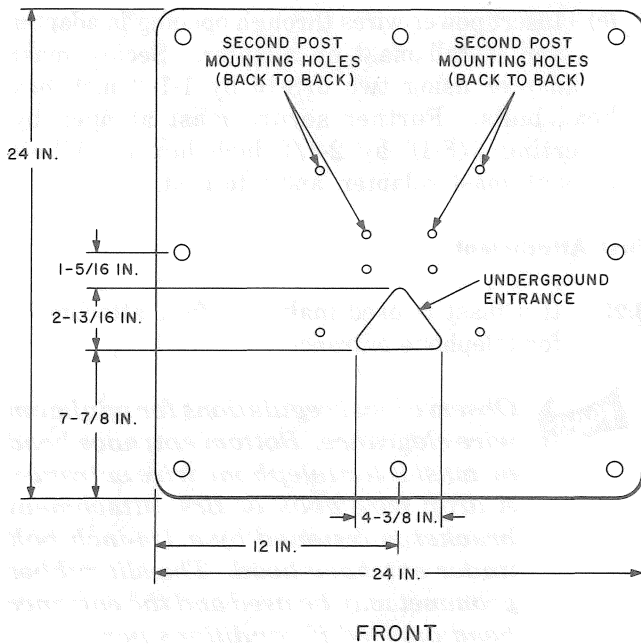

Fig. 14—B-565322 Base
- 3.05** Place base (Fig. 14) in the exact position that pedestal will be mounted.